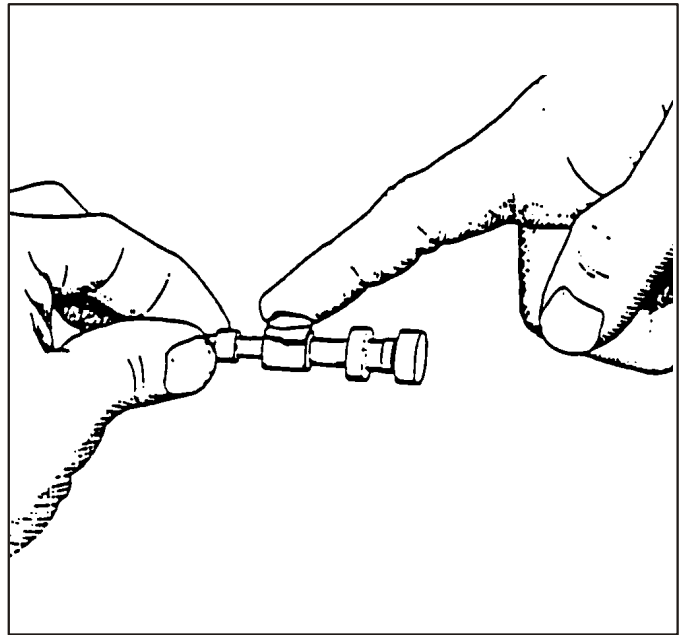

Figure 4
1. Apply a small amount of "Micro fine" lapping compound to the valve lands. (The lapping compound should be 900 grit or finer) Reinsert the valve in the bushing (or bore in the valve body). (Refer to Figure 4).